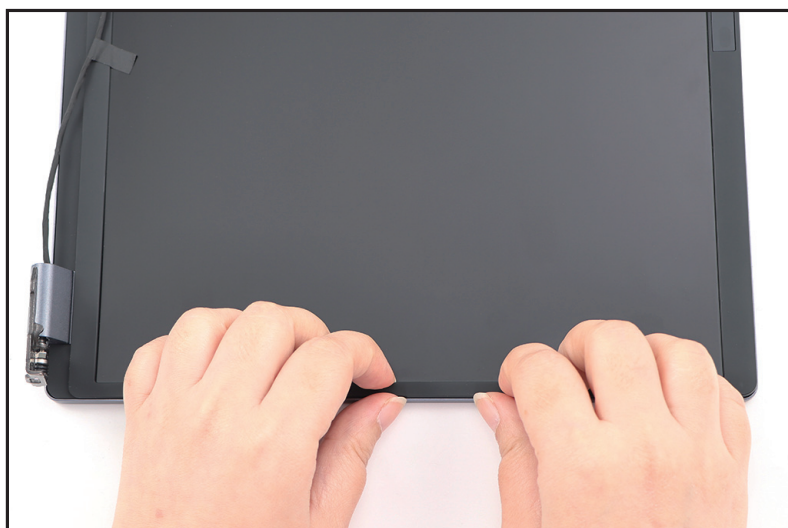

Figure 1-64. LCD Bezel Removal
2. Pry the LCD bezel from the right side to release the latches (Figure 1-64).